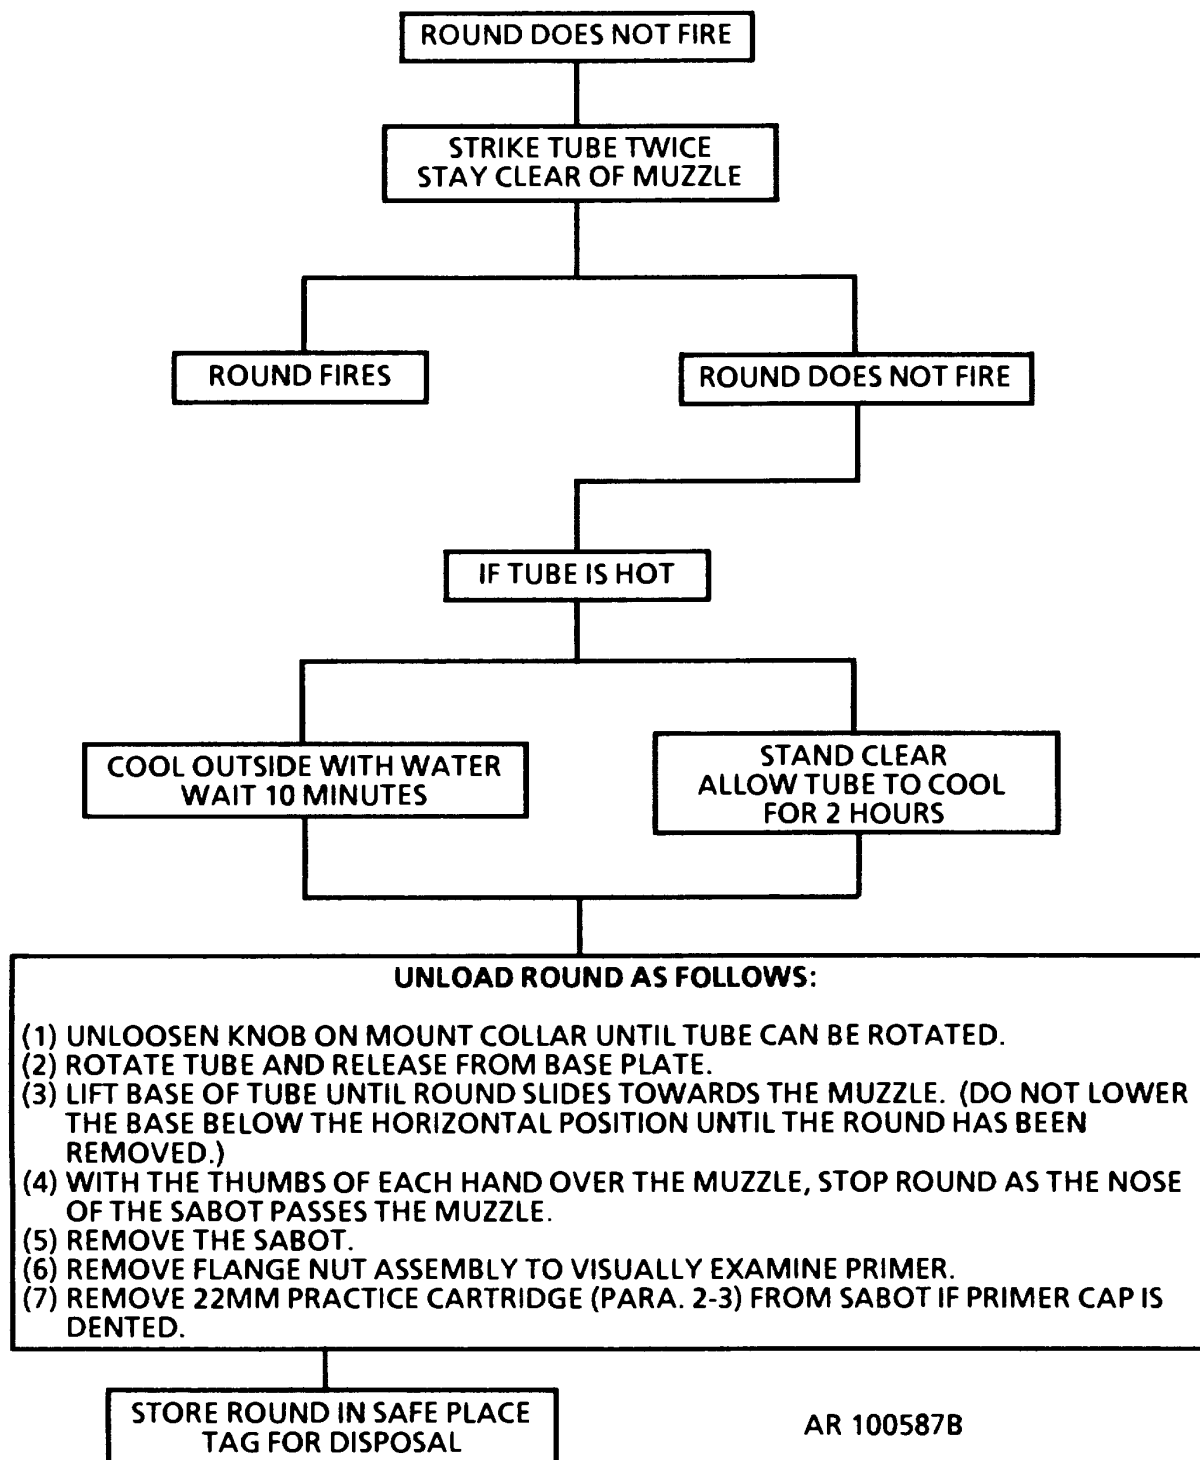

Figure 2-2. Misfire removal procedure.
c. After failure to fire, follow misfire removal procedure (fig. 2-2) to remove round from weapon.